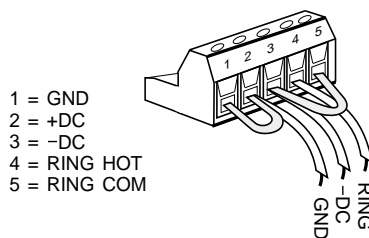

Figure 4 5-position terminal strip showing DC output connected for a positive ground scheme and ring output DC biased.
3.8 RING OUTPUT CONNECTIONS As previously mentioned, the ring output is floating (isolated) in respect to earth ground. The ring output can be connected in series with the DC output to provide battery-biased ring. Figure 4 shows a typical telecommunications application, where the DC output is connected in a positive ground scheme, and the ring output is connected for battery-biased operation.